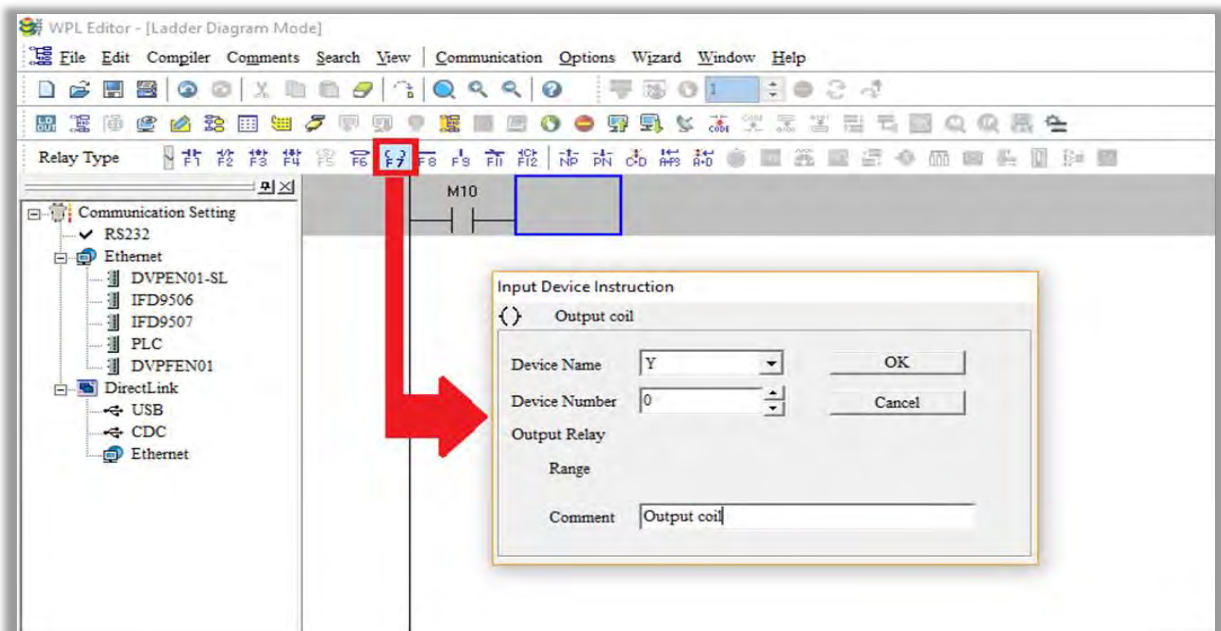

Figure 16-14
Step 3: Click on the output coil icon  or press function key F7. After the name of the input device and the comment dialog box have appeared, the device name (such as "Y"), device number (such as "0"), and input comments (such as "output coil") can be selected; press the OK button when finished (see Figure 16-14 and 16-15 below).